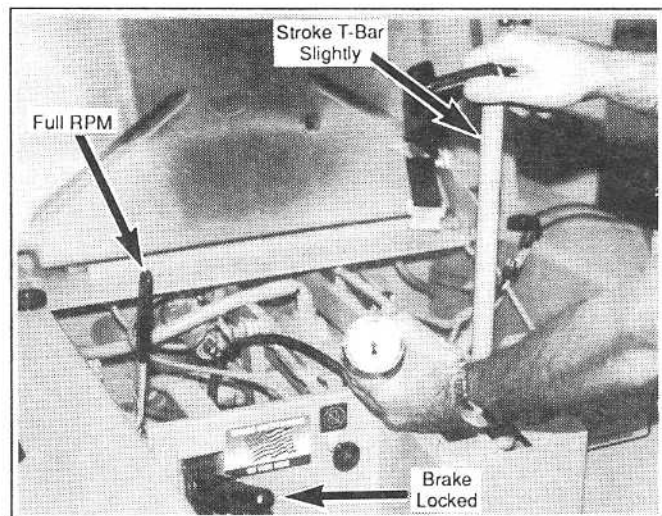

Figure 5-2
4. With the machine tied to stall the drive system and engine at FULL R.P.M., move the T-Bar SLIGHTLY to load the drive system and note charge pressure. A slight drop in pressure is normal. (See figure 5-2)